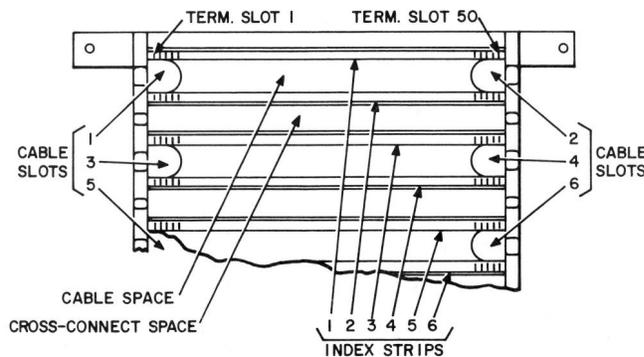

Fig. 15—Numbering Plan for 88-Type Wiring Block
- (1) When station or equipment cable enters from the top, use No. 6 twine with a weight. Drop behind wiring block and use wire hook to fish through proper cable slot. Pull cable down through cable slot.
- (2) When cable enters from the bottom, drop weighted No. 6 twine through proper cable slot and down behind the wiring blocks. Pull cable up through cable slot.
3.06 Cable slots are numbered with the odd numbers on the left and the even numbers on the right, from top to bottom (Fig. 15). In the red field, only the odd number cable slots on the left side are used.